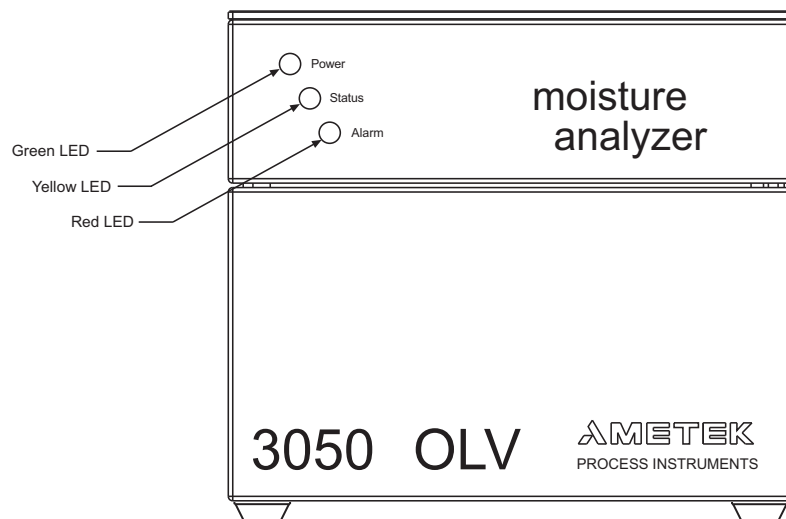

Figure 3. Leds
Explosion-proof enclosure - approximately 42 x 48 x 46 cm plus clearance for analyzer connections. Refer to Figure 3.
2. Mount system in selected location and bolt in place. Refer to figure 3.